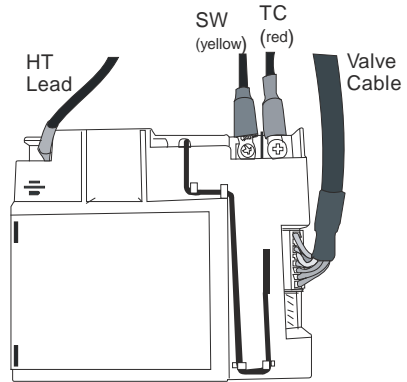

Figure 37
3. Connect the cables from the valve to the receiver as shown in **Figure 37** keeping the cables clear of the underside of the tray. Does not force the valve cable plug when inserting into the receiver – it only fits one way.